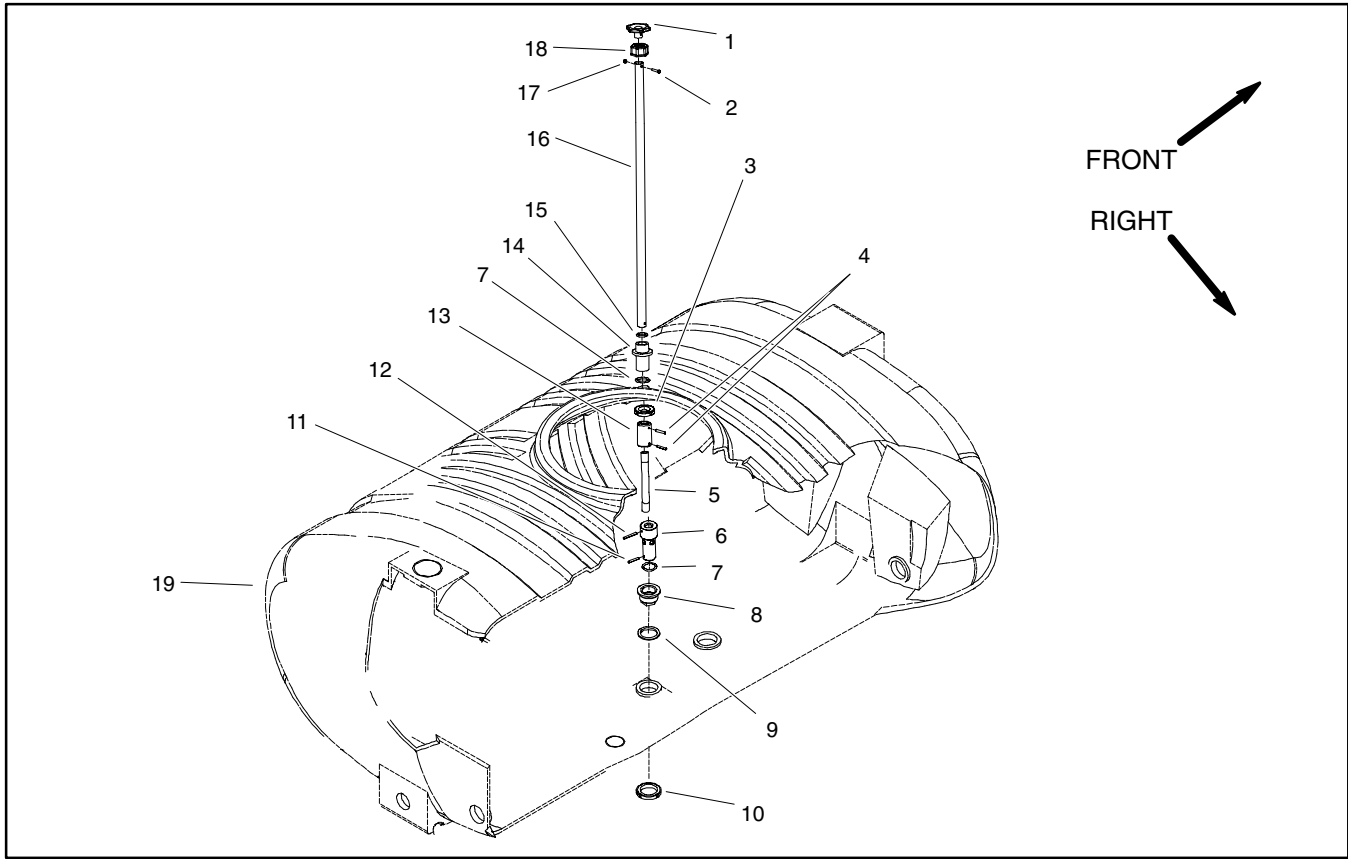

Figure 32
### Disassembly (Fig. 32)
5. Raise tank lid and remove strainer basket to gain access to ringnut (item 7) that secures bulkhead (item 14) to tank. Loosen and remove ringnut from bulkhead. Slide bulkhead from drain tube.
6. Loosen and remove ringnut (item 10) that secures bulkhead fitting (item 8) to bottom of tank.
7. Lift drain tube until bulkhead fitting (item 8) clears bottom of tank. Lower drain tube assembly into tank and remove tube assembly through tank lid opening.
8. Disassemble drain tube using Figure 32 as a guide. Discard all removed o-rings and gaskets.
### Assembly (Fig. 32)
1. Assemble drain tube using Figure 32 as a guide. Replace all removed o-rings and gaskets.
3. Raise tank lid and remove strainer basket to gain access to chain (item 7) that connects drain handle (item 1) to plunger in drain assembly (item 8). Disconnect chain from drain handle.
4. If necessary, remove drain handle and bulkhead from tank using Figure 32 as a guide.
1. Assemble drain tube using Figures 32 and 35 as guides. Replace all removed o-rings and gaskets.